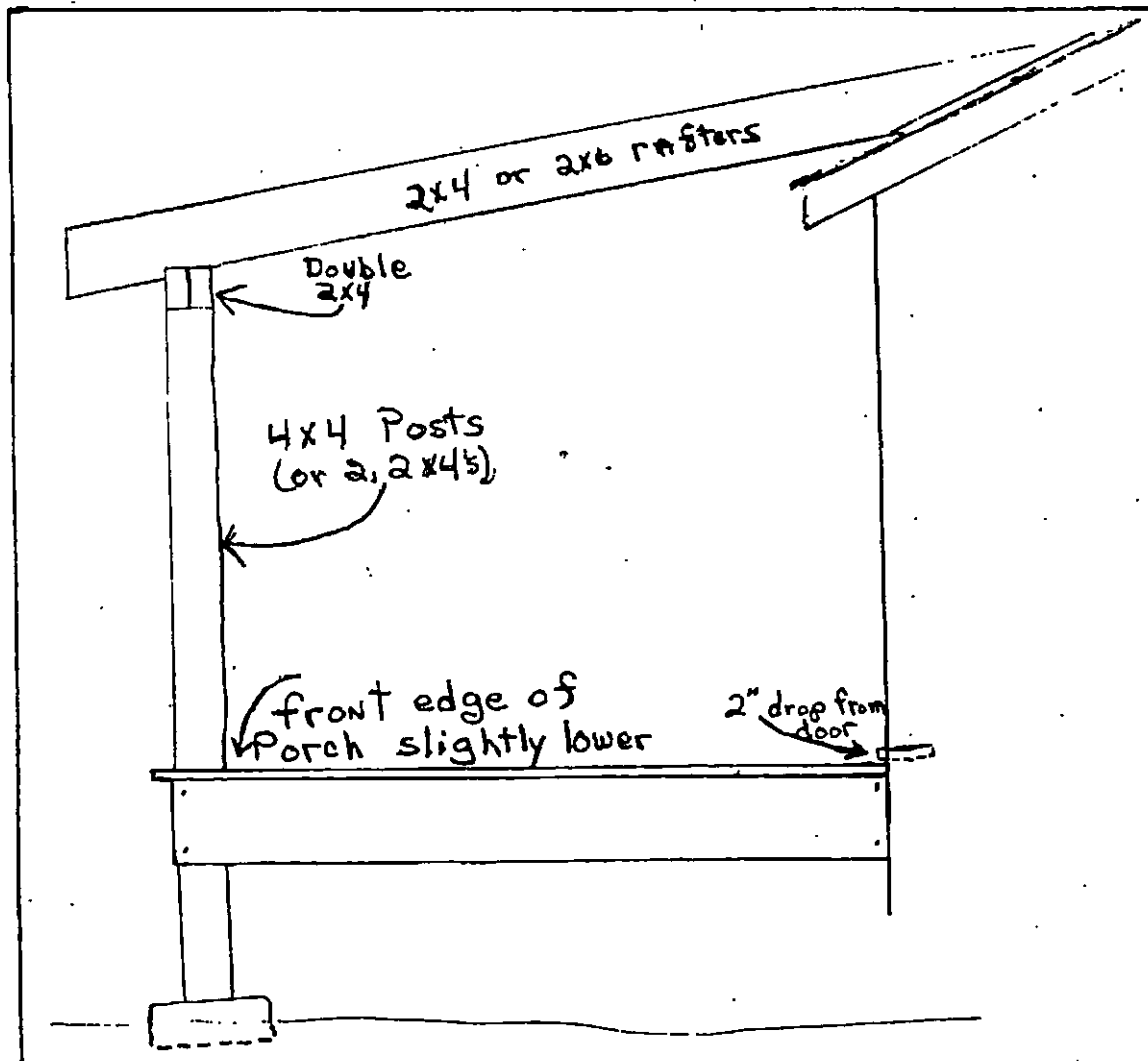

FIGURE 71
4. Once the rafters are nailed in place, nail down decking of 1X planking or plywood. (See Roofing Section for roofing information.) (See Fig. 71)